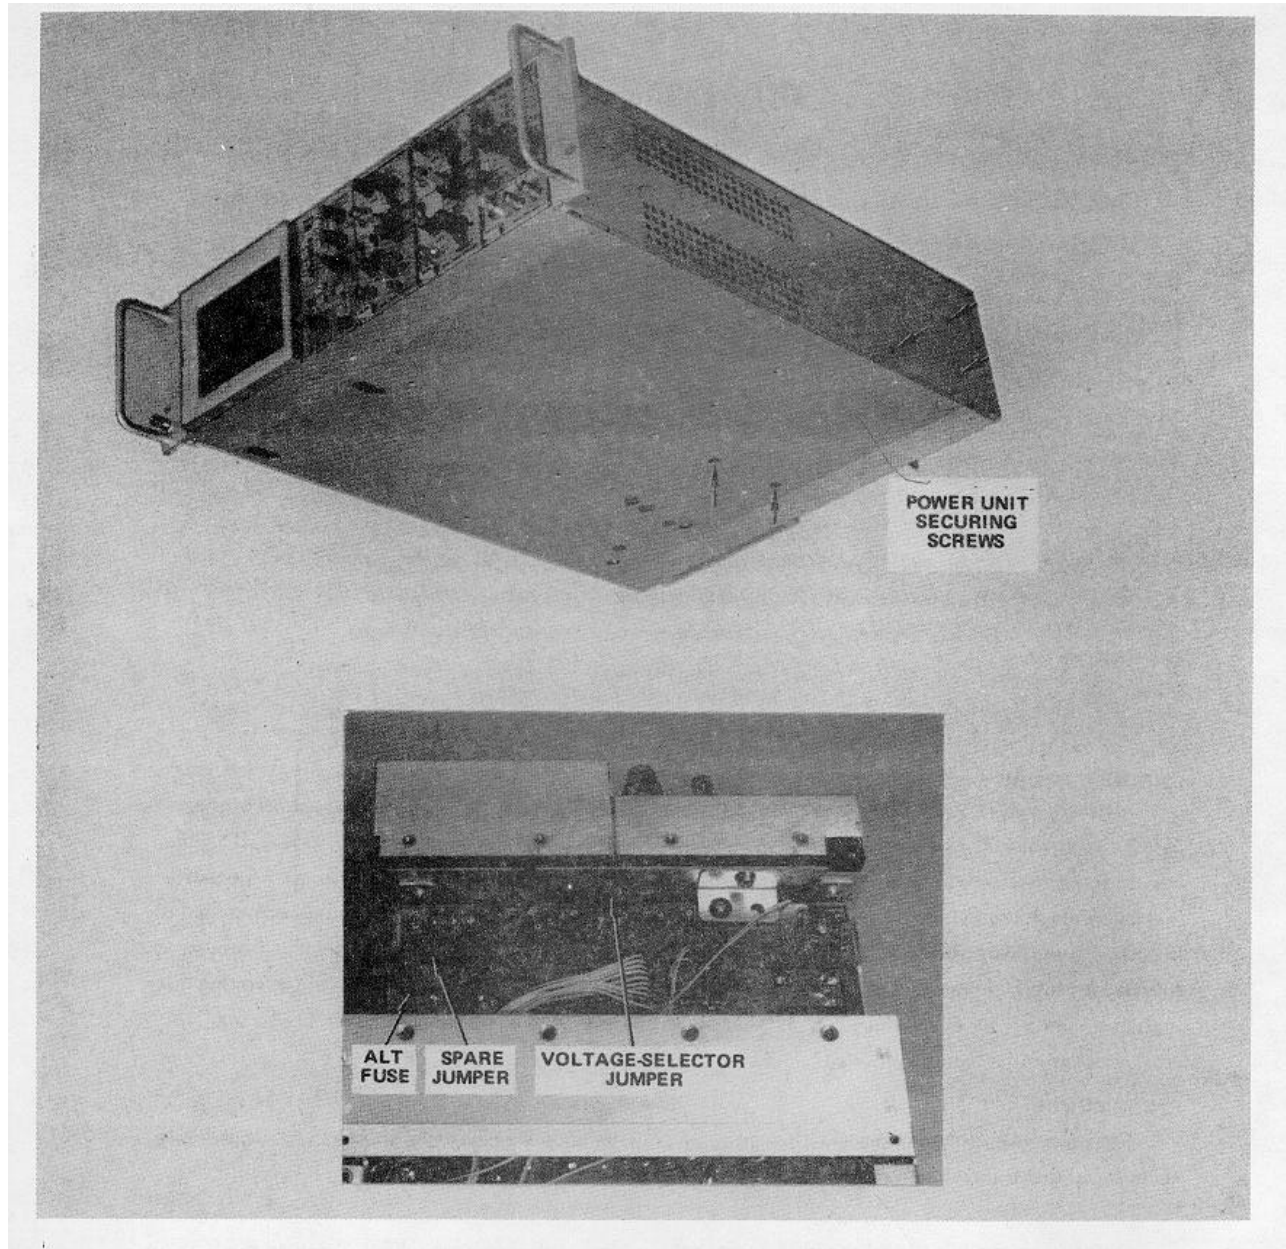

Figure 4-1. Power Unit removal.
2. Remove the six screws which secure the power unit to the sides of the instrument, (see Fig.4-1 for locations of screws on R7623A).